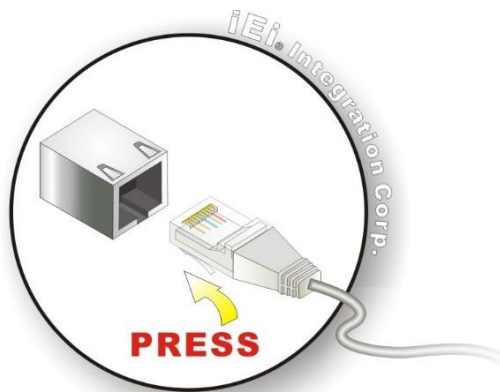

Figure 3-13: LAN Connection
Step 2: Align the connectors. Align the RJ-45 connector on the LAN cable with one of the RJ-45 connectors on the DRPC-240-TGL. See **Figure 3-13**.